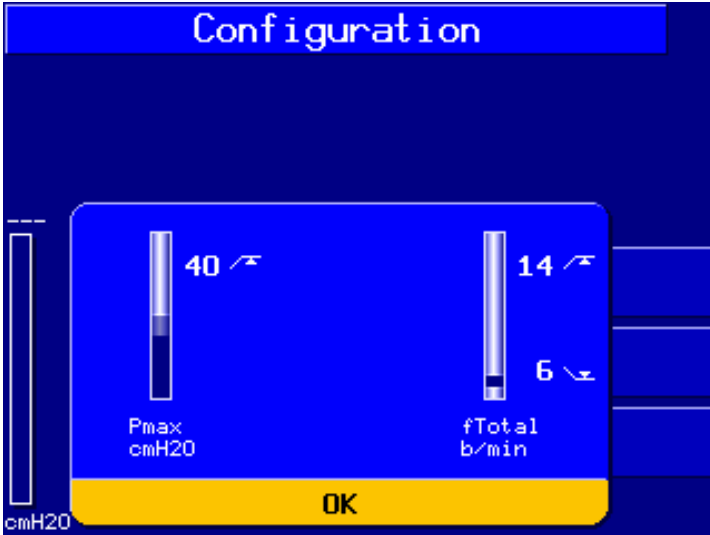

Figure E-8. Alarm window, configuration mode
6. You will now see the alarm window (Figure E-8).